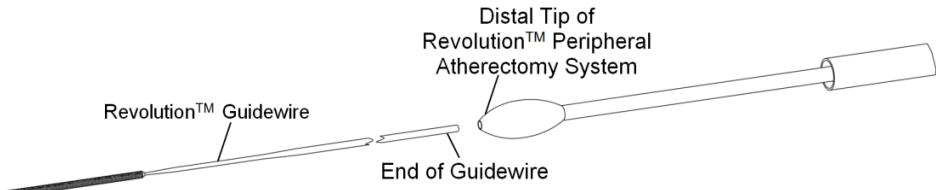

Figure 7: Load device onto the Revolution™ guidewire
5. Insert the proximal end of the Revolution™ guidewire into the distal tip of the device until the guidewire is through the proximal end of the Revolution™ Peripheral Atherectomy System as shown in Figure 7.